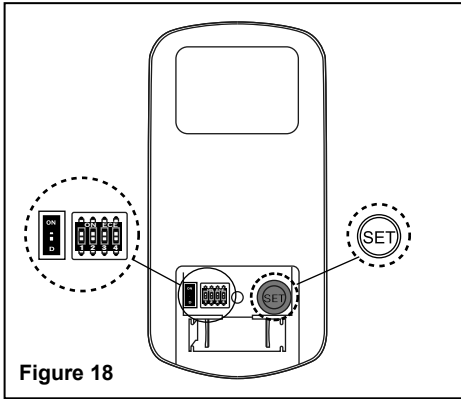

Figure 18
a) Select desired frequency from the transmitter. The dip switches can be set to 16 different combinations. (Fig. 18)
b) From the back of the transmitter, with the fan's power off, restore power to the fan. Press and hold "SET" button for about 5 seconds and release. If optional light kit is installed, the light kit will flash twice and the signal light on the hand held transmitter will come on when the button is pressed. The fan has completed the pairing process with the remote control and is ready for use. (Fig. 18)